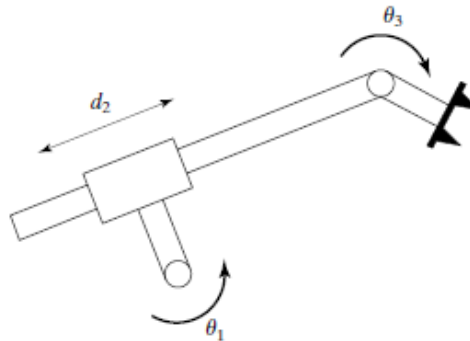

Figure 2b
- (c) Assign link frames to the RPR planar robot shown in Figure 2b, and give the linkage parameters. [6 Marks]